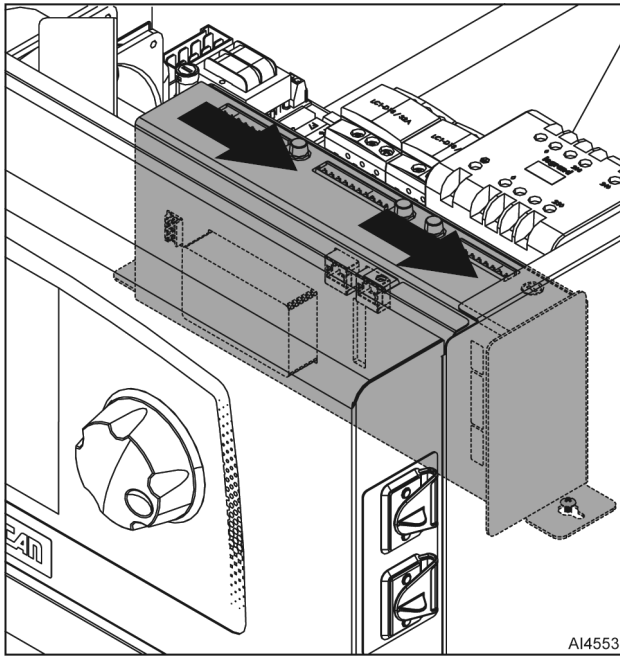

Fig. 8
2. Remove connectors from output control assembly (Fig. 8).